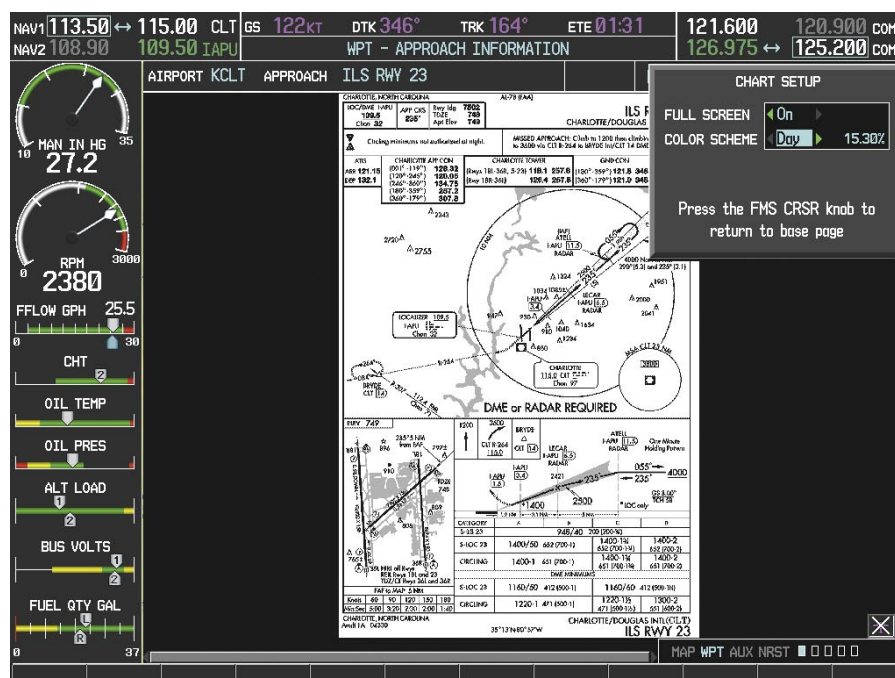

Figure 8-52 Approach Information Page, Day View
- 3) Turn the large **FMS** Knob to move to the COLOR SCHEME Option (Figure 8-52).